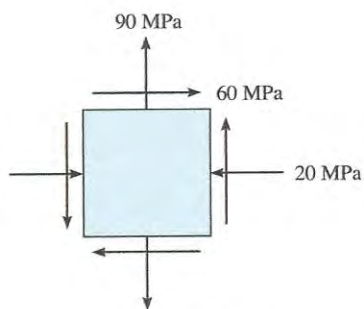

Figure Q6(b)
- (b) The state of plane at a point on a body is shown on the element in the **Figure Q6(b)**. Represent this stress in terms of the: